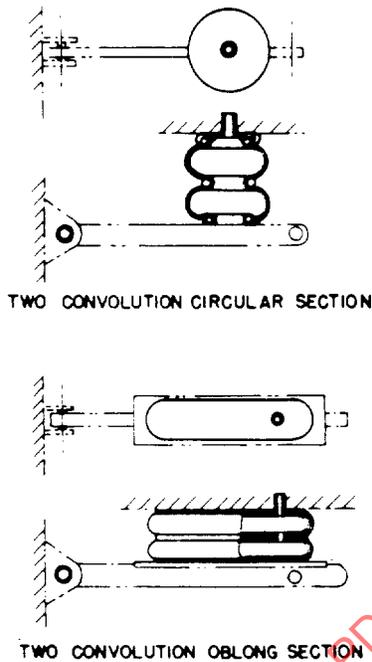

FIGURE 2—BELLOWS TYPE PNEUMATIC SPRINGS
5.2 **Bellows Type**—This type utilizes a nonreversible flexible member and relies upon its self-restraining characteristics to affect the load-deflection curve. See Figure 2.